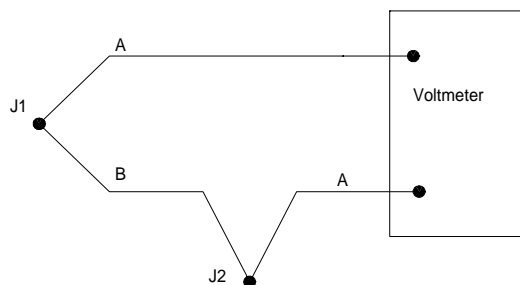

Figure 1 Basic idea of a thermocouple
A thermocouple is basically a two dissimilar materials joint at one end called a junction. The emf generated at the other two ends is due to temperature change. In order to use the T/C for temperature measurements, a reference junction is formed like J2 as shown in figure 1 below. Junction J1 is the place at which one needs to measure T_1 , while junction J2 is kept at a reference temperature say T_2 .
- 1-Using the welding machine and the above welding procedure to make a thermocouple with two junctions as shown in Figure 1. Make sure to identify the type of the thermocouple in order to use the proper calibration table.